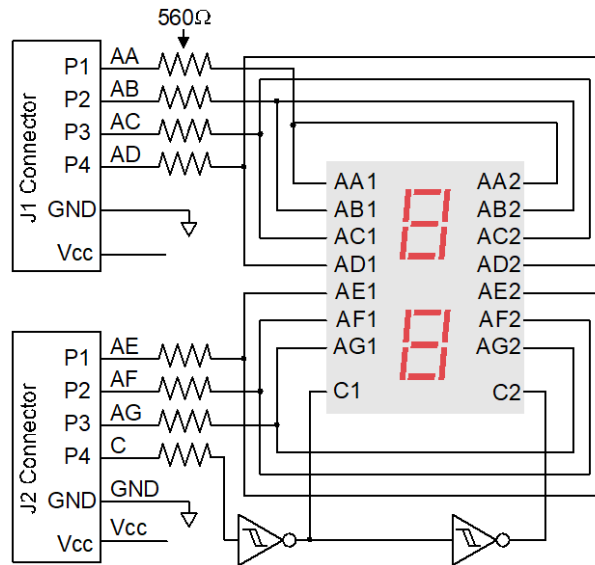

Figure 4. Seven Segment Display PMOD Device Diagram
Step 4-2: You will be using Vivado's *I/O Planning* tool in order to design your constraints file. However, before you can do this, you will need to know which pins to assign your inputs and outputs to. You have been provided two PMOD devices for this lab. The first is a set of four additional switches. The schematic for this PMOD device is shown in Figure 4.